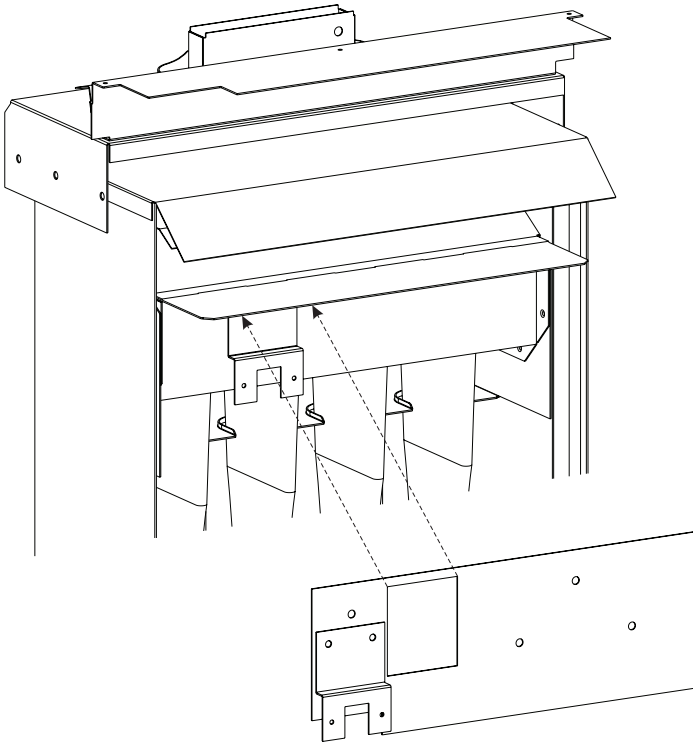

Figure 3
5. Install vent safety switch relocation bracket by sliding it behind the existing vent safety switch bracket. **See Figure 3.**